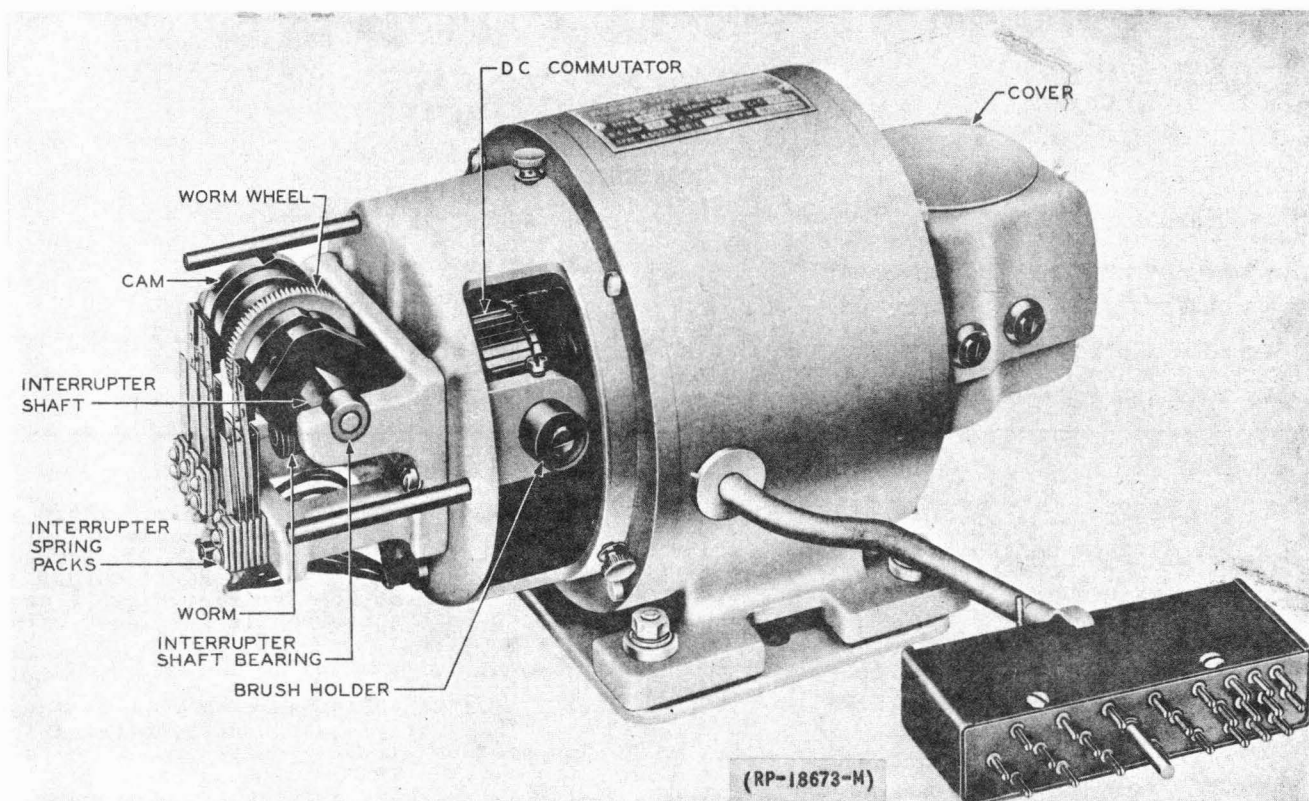

FIG. 1 KS-5319-04 (ELECTRIC SPECIALTY CO.) RINGING MACHINE
1.41 KS-5319-04 (See Fig. 1) has a 48 volt dc motor driving an ac alternator which generates 20 Hertz ringing voltage. The 20 Hertz output voltage is too low for ringing service and a step-up transformer is furnished with the machine.